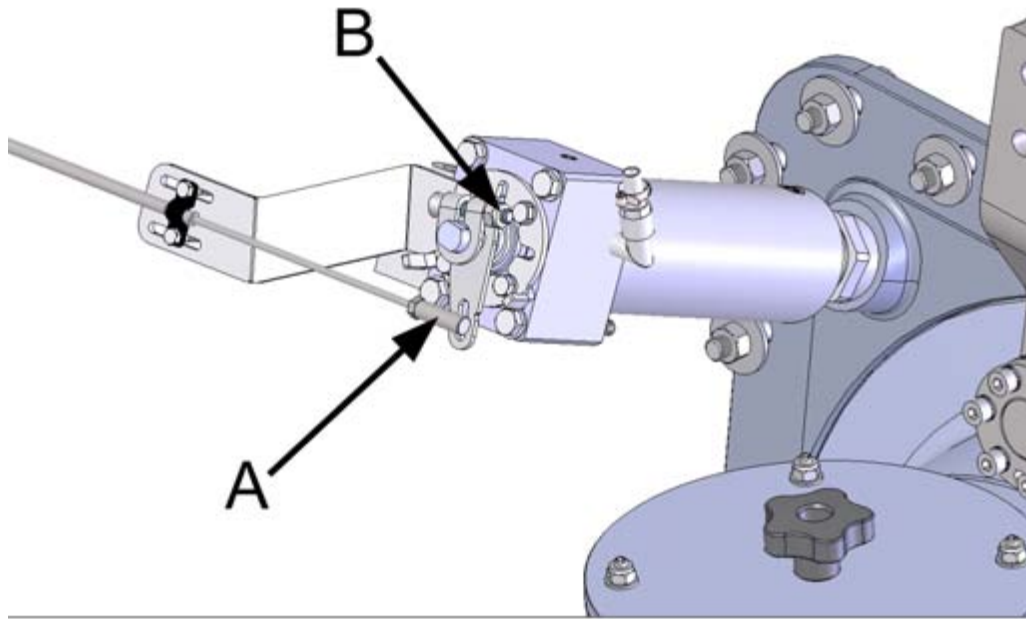

Figure 46. Removing the control cable
1. Detach the control cable from the end of the cylinder operating lever (figure 46, point A).
2. Loosen the operating lever screw (figure 46, point B) but do not pull the lever off the shaft yet.
7. Attach the control cable to the screw at the end of the operating lever (figure 46, point A).